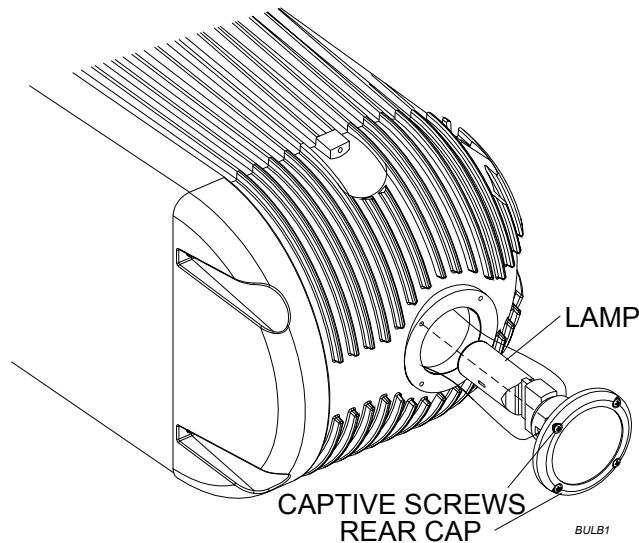

Figure 6.1 - Replacing the Lamp
1. Using #2 Phillips screwdriver loosen four captive screws and remove head enclosure rear cap (Figure 6.1). (Be sure O-ring remains in groove of rear cap).